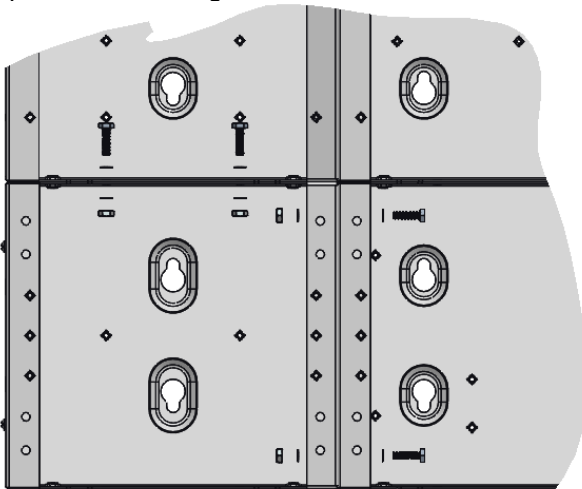

Fig 2
- Image shown in Fig 2 demonstrates the box attaching from the left-hand side only, reverse the process for the right-hand side.